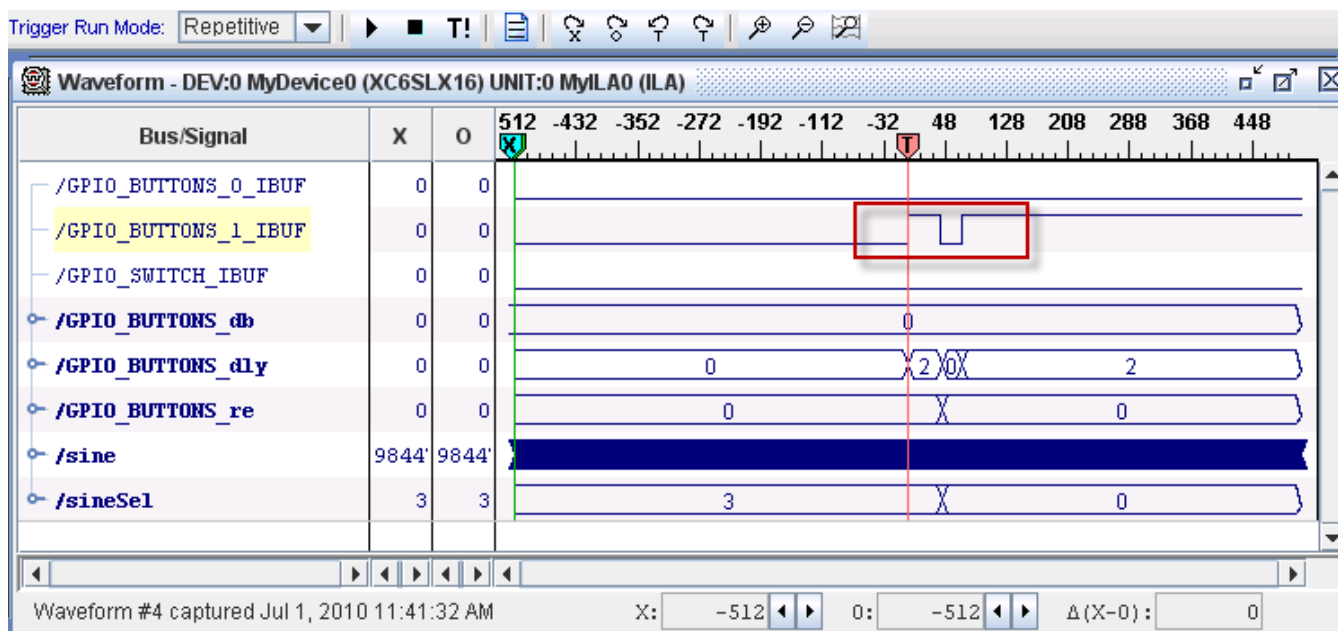

Figure 9: GPIO Buttons_1_re Signal Glitch
7. On the board, press the *Sine Wave Sequencer* button until you see multiple transitions on the `GPIO_BUTTONS_1_IBUF` signal (this could take 20 or more tries). This is a visualization of the glitch that is occurring on the input. An example of the glitch is shown in Figure 9.